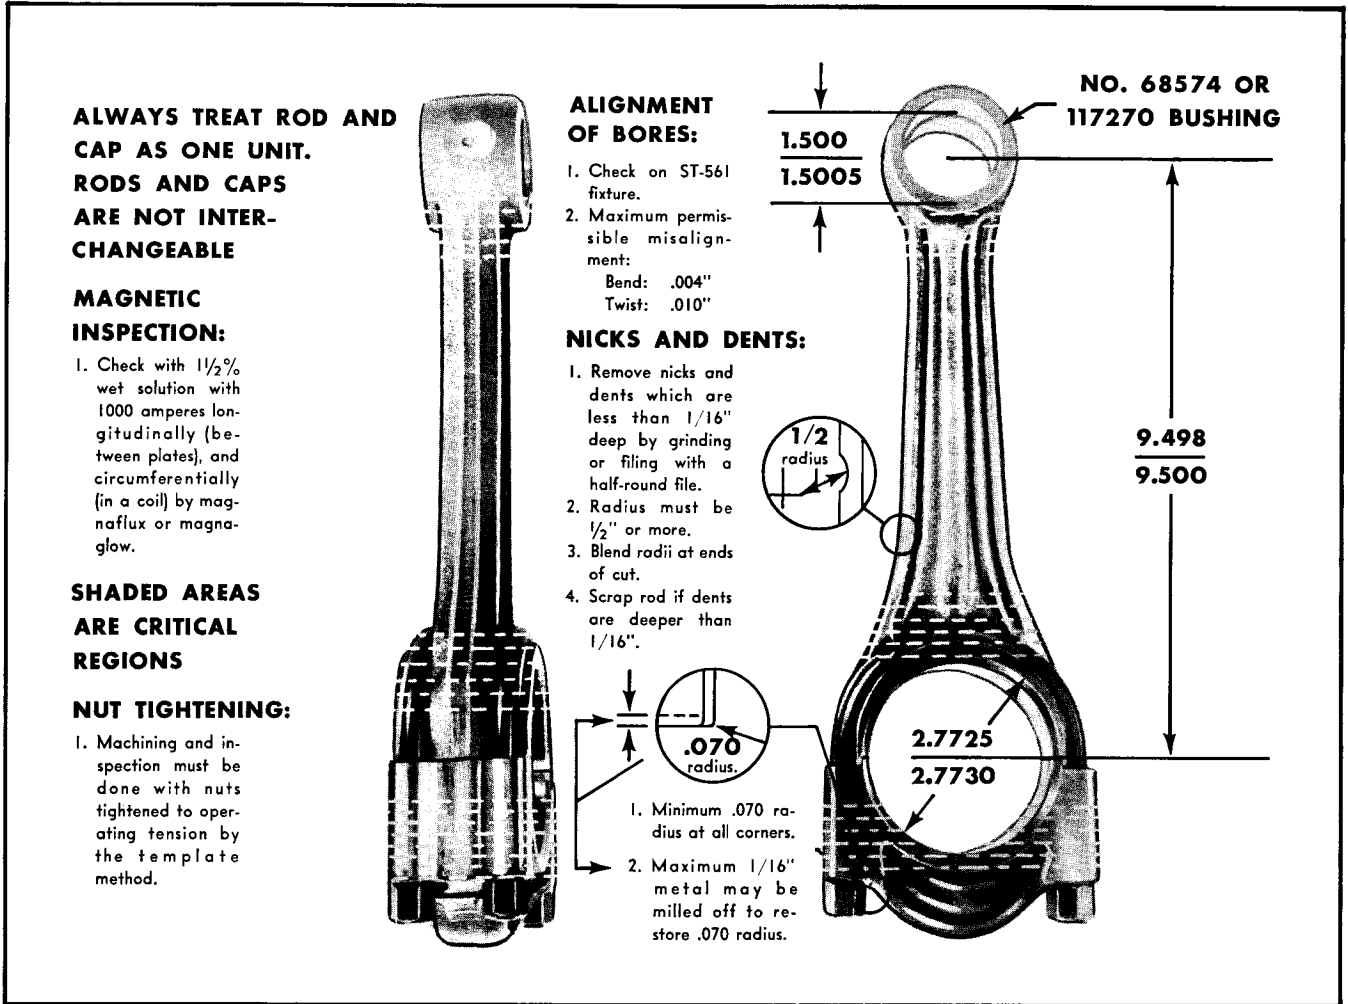

Fig. 2-29. Connecting rod specifications
2. Check for crack with 3600 to 4000 ampere-turns in a coil. Pay particular attention to shaded critical areas shown in Fig. 2-29.